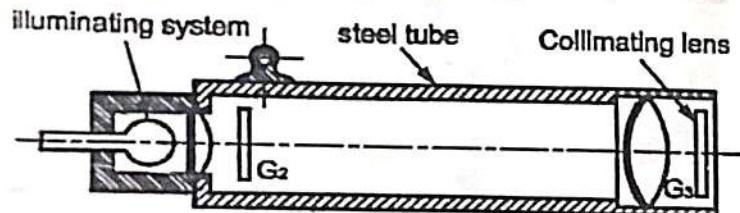

Figure 2.110 Optical system of autocollimator unit
* the collimating unit consists of another steel tube , ground to the same diameter as the telescope and containing an illuminating system , a graticule G_2 , a collimating lens , and another graticule G_3 shown in figure 2.110